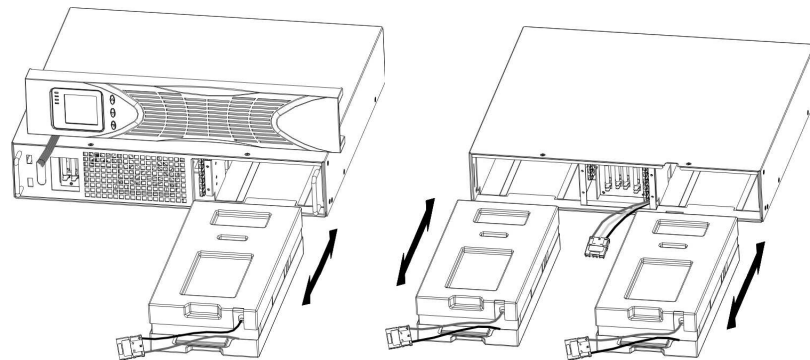

Fig.27 Remove the battery park
4. Grasp the handle in front of the battery pack, take out of it and hold it, then remove the battery pack as fig. 27 shown.